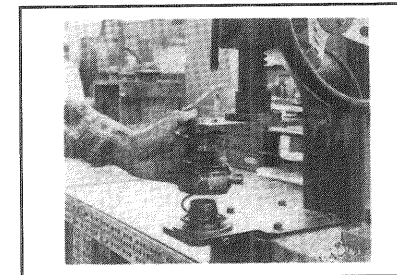

Fig. 5
5. Using a mechanical press (or other safe means) compress the springs and fasten the NoSPIN together with a retaining bolt, washers and wing nut (Fig. 5). Be sure the side gear splines are completely meshed with the clutch spline.